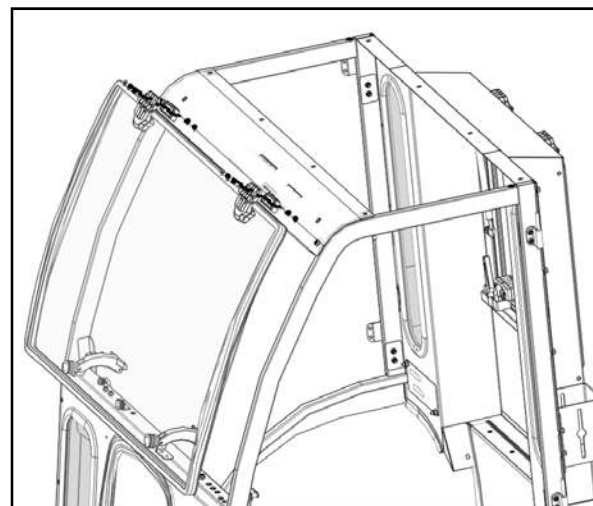

Fig. 7.1 (Windshield Installation)
**7.1** With assistance, install the windshield to the windshield support using plastic spacer blocks underneath each upper plastic hinge to space it off the windshield support. Snug fasteners, but **do not tighten fully**. See Fig. 7.1.